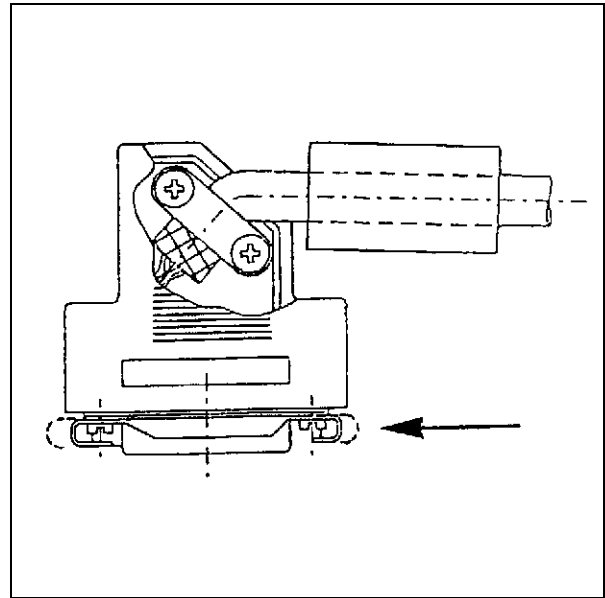

Fig. 2:
- Plug the control console cable, with ferrite core, to the back of the control console and **snap** in the plug lock (arrow/(Fig. 2 / p. 8)).
- Plug the control console cable, with ferrite core, to the back of the control console and **snap** in the plug lock (arrow/Fig. 2 / p. 8).
- Plug the control console cable, with ferrite core, to the back of the control console and **snap** in the plug lock (arrow / (Fig. 2 / p. 8)).